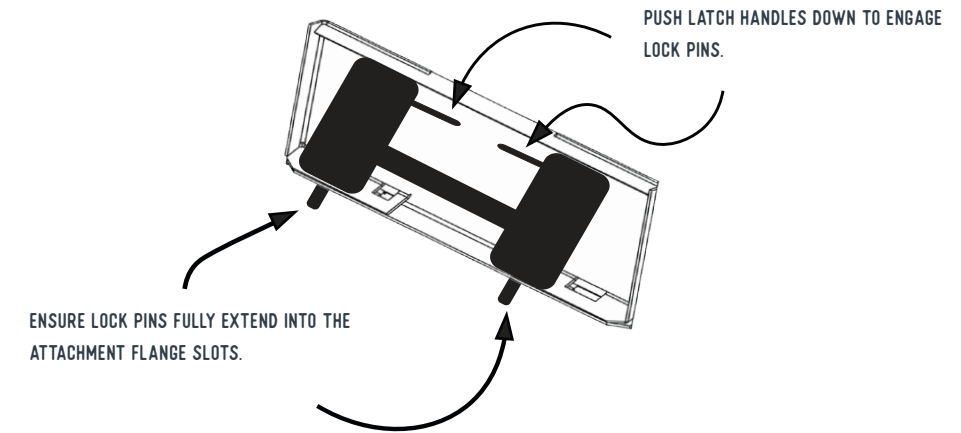

FIGURE 2.2B QUICK ATTACH MECHANISM LOCKED TO ATTACHMENT PLATE
5. Push the skid loader quick attach locking levers down until you can see the coupler pins extend into the slots on the attachment bracket. (See Figure 2.2b)